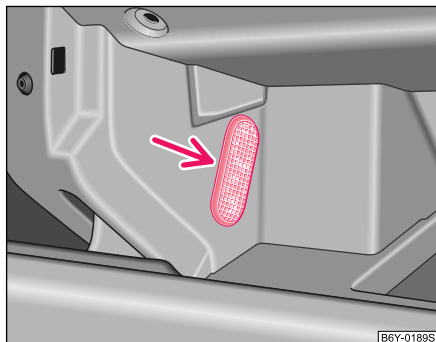

Fig. 161 Remove lighting in storage compartment on front passenger side
- Push in a knife or screwdriver from the side between the light and the glove compartment ⇒ fig. 161. Lever out the light carefully.